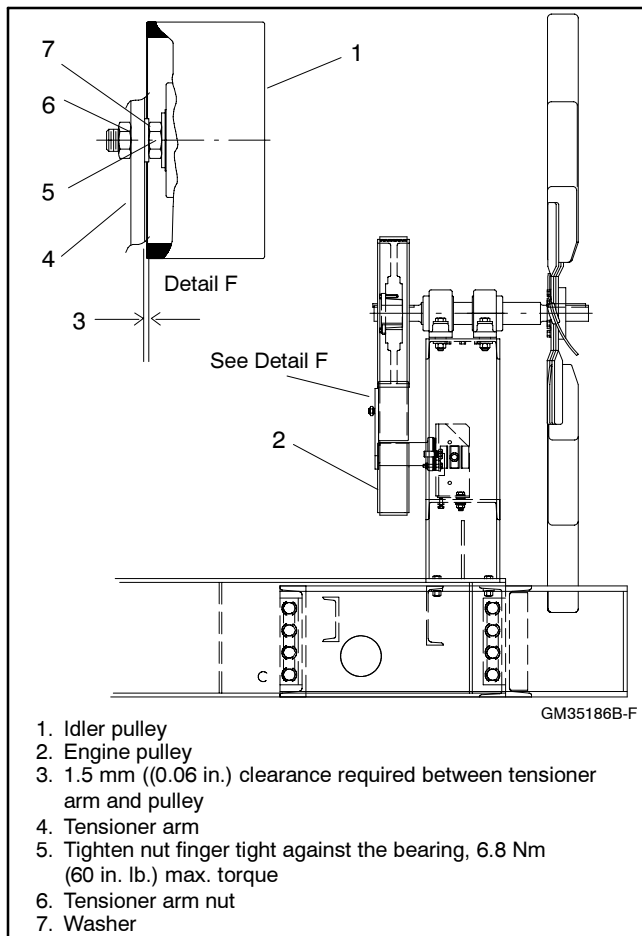

Figure 3-24 Idler Pulley Arm and Pulley Assembly
- (1) Remove the tensioner arm nut. See Figure 3-24.
- (2) Remove the idler pulley and hardware from the tensioner arm.